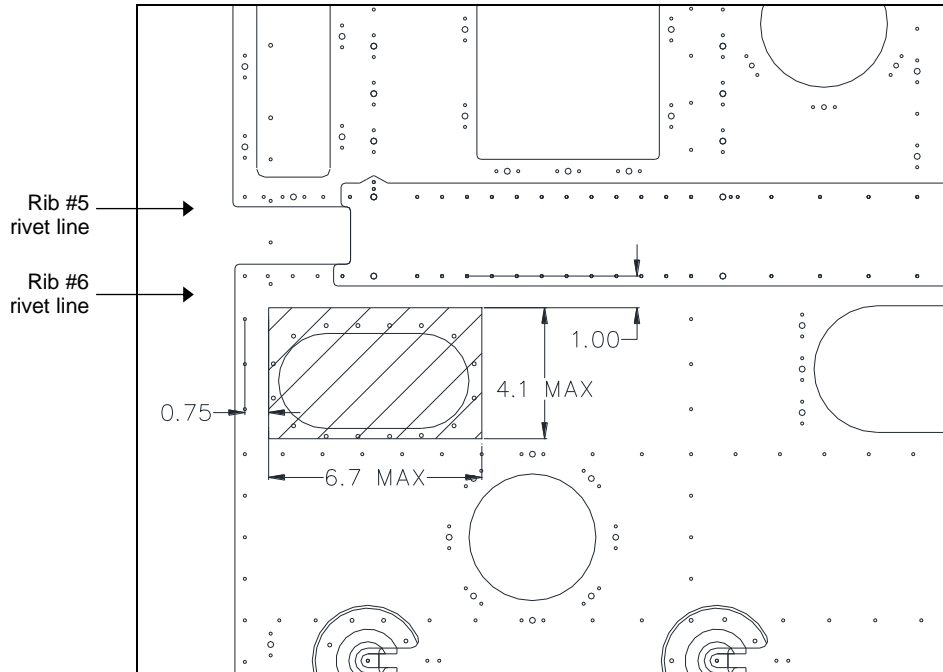

Figure 11: Centre Floor Cut-Out Region – LHS viewed from above
- 1) Cut the LHS and RHS floor skin in the shaded region shown in Figure 11. Make sure the edge of the cut-out remains at least 0.350" from any rivets.